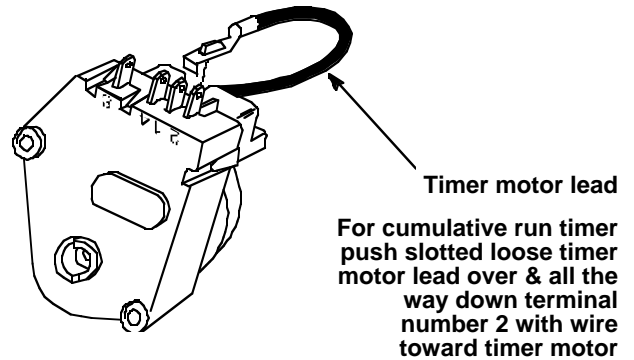

Figure 7
2. Connect loose wire to terminal #2. (Use numbers only. Disregard any letter description on timer cover.) See Figure 7.